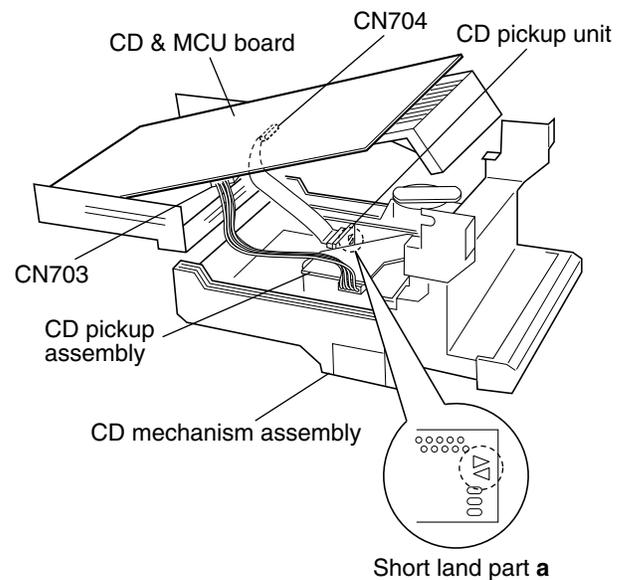

Fig.2
4. Lift the CD & MCU board and attach solder to the short land part **a** on the CD pickup assembly. (See Fig.2.)
5. Disconnect the card wire from the connector CN704 on the CD & MCU board, and take out the CD & MCU board. (See Fig.2.)
[Cautions] • Be sure to solder the short land part **a** on the CD pickup unit before disconnecting the card wire from the CD pickup assembly. (See Fig. 2.) If the card wire is disconnected without attaching solder, the CD pickup may be destroyed by static electricity.